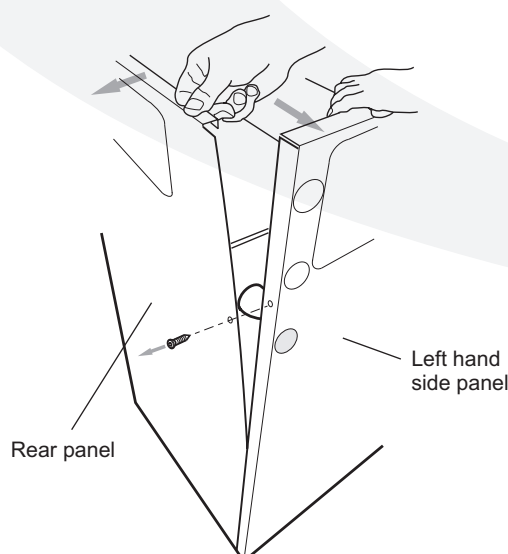

Figure 6-4: Remove the condensate trap
3. Carefully separate the left side and rear panels just enough to gain access to the condensate outlet on the left rear of the condensing heat exchanger (see Figure 6-4).